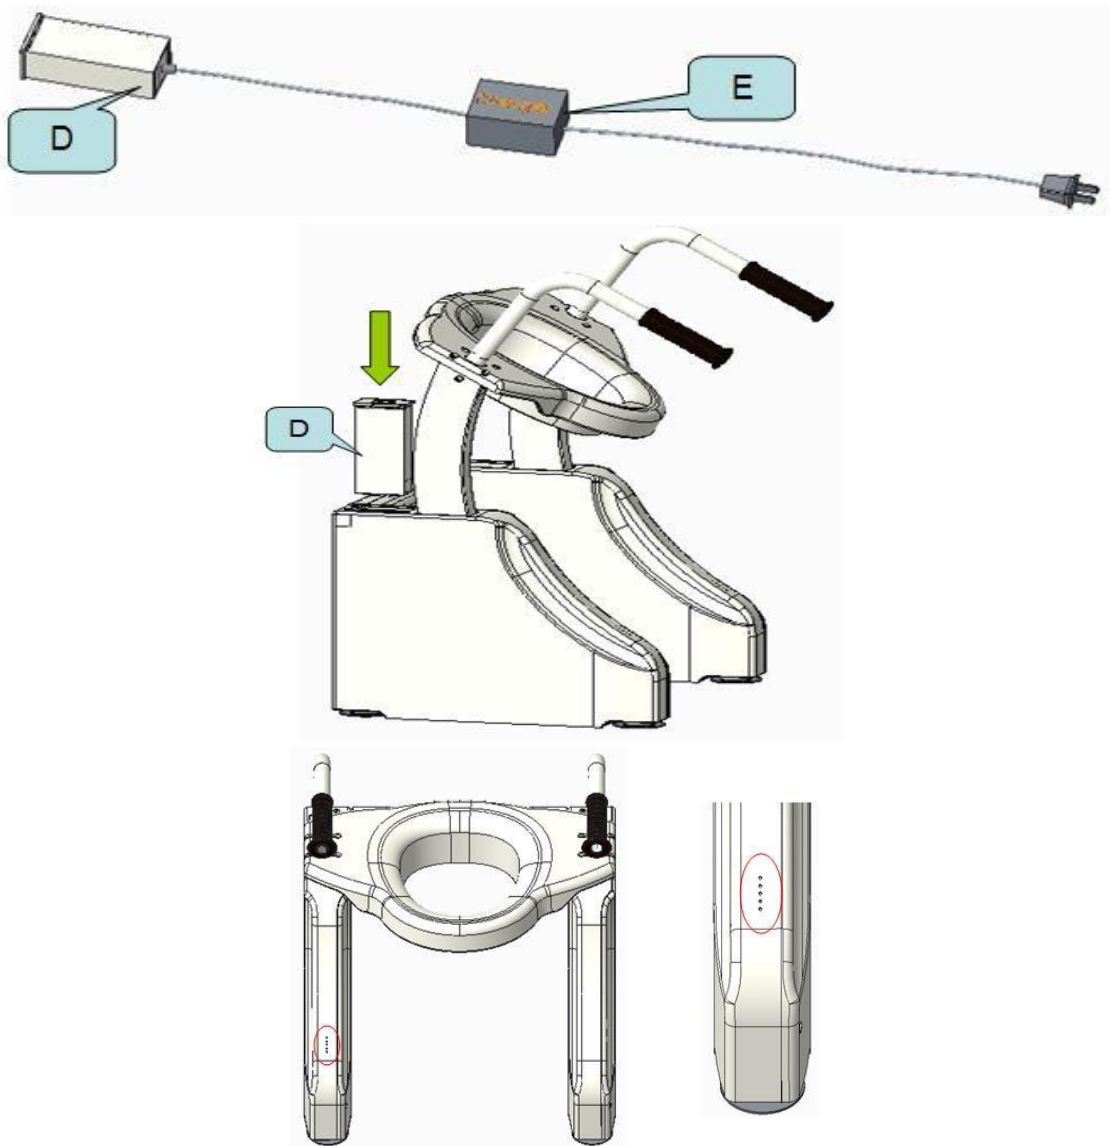

Figure 3 Power indicator
5. The power display is located in the position shown in Figure 3. To save power, the battery is only displayed while the unit is in operation. Referring to the power comparison indicator, the lithium battery should be charged when only the red light is on.